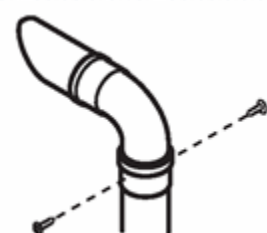

Fig. 21m
14. Fit the 93° elbow/plume outlet and secure with the two remaining screws supplied. Ensure the plume outlet is at least 45° to the wall and that the 'peak' is up permost (Fig. 21m).